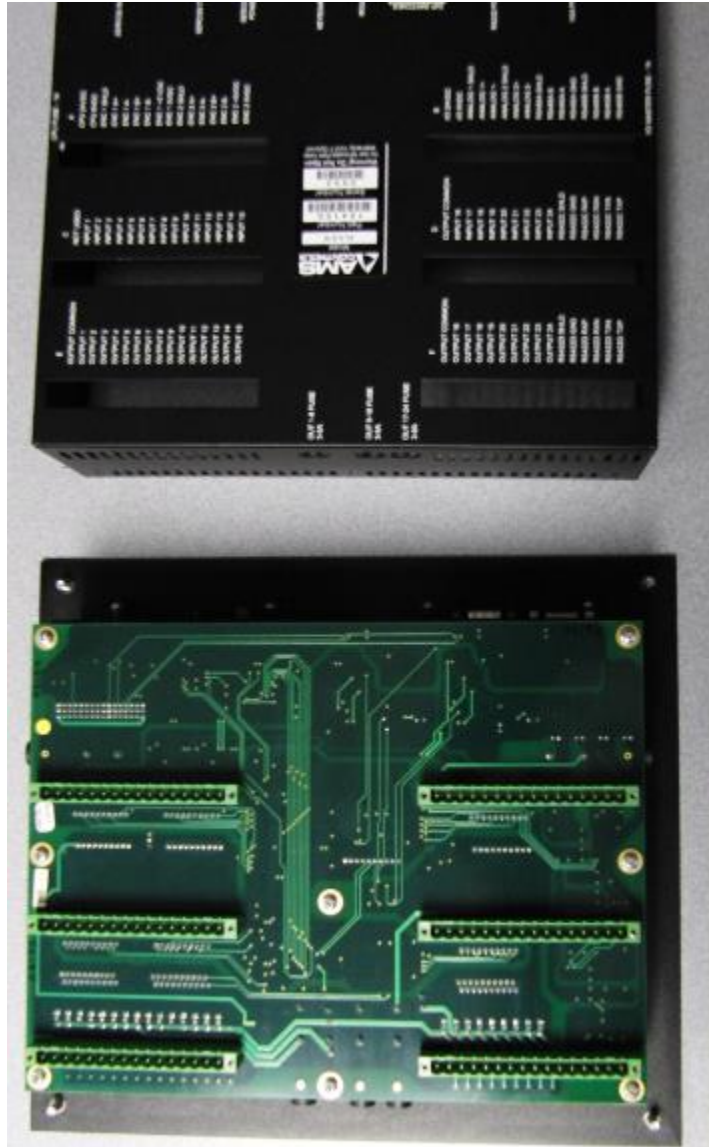

Figure 5 - Back cover and XL200 with back cover removed
4. Remove the back cover as shown in Figure 5.